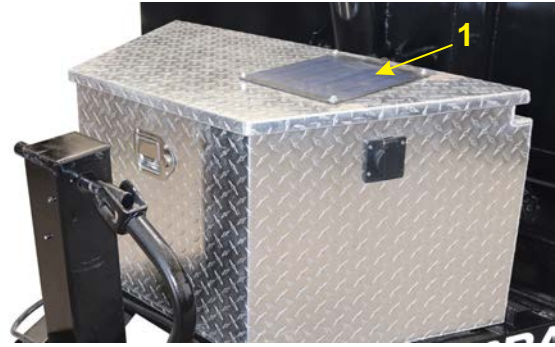

Figure 3-33 – Clean Solar Panel
7. Wipe off the solar panel (1, Figure 3-33) used to trickle charge the hydraulic system battery.